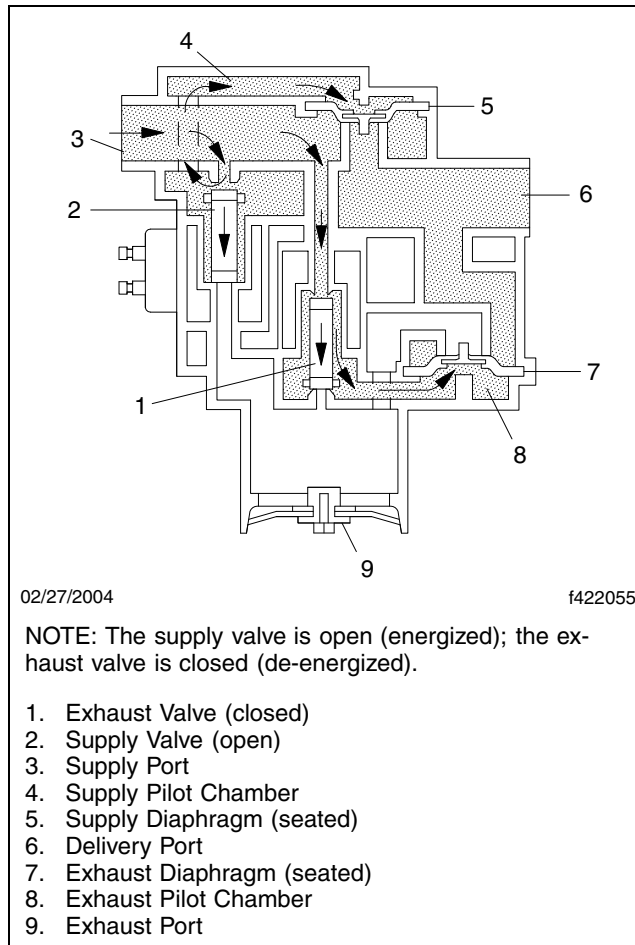

Fig. 5, Modulator Valve, Brake Hold Control
- When enough air is released through the exhaust port to stop the wheel from locking (ABS brake release), the exhaust valve is closed and air pressure is allowed to flow into the exhaust pilot chamber. See **Fig. 5**.